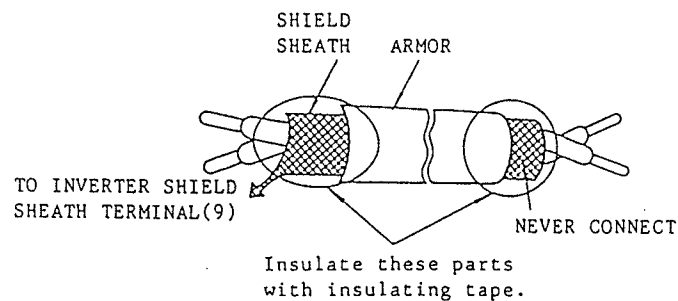

Fig. 3 Shielded Lead Termination
- (1) Control circuit leads (2 CON) and transmission circuit leads (12 CON) must be separated from main circuit leads (R) (S) (T) (E) (U) (V) (W) (B) (P) and other power cables to prevent erroneous operation caused by noise interference.
- (2) Control circuit leads (1) (2) (8) (14) (23) (contact output) must be separated from leads (3) to (7), (9) to (13), (15) to (21) and (25).
- (3) Use the twisted or twisted-pair shielded lead for the control circuit line and connect the shield sheath to the inverter terminal. See Fig. 3. It is recommended that the wiring distance of the signal leads be 50 meters below.
- (4) Use the twisted shielded lead for the transmission circuit line and connect the shield sheath to the inverter connector. See Fig. 3. It is recommended that the wiring distance of the signal leads be 5 meters below.